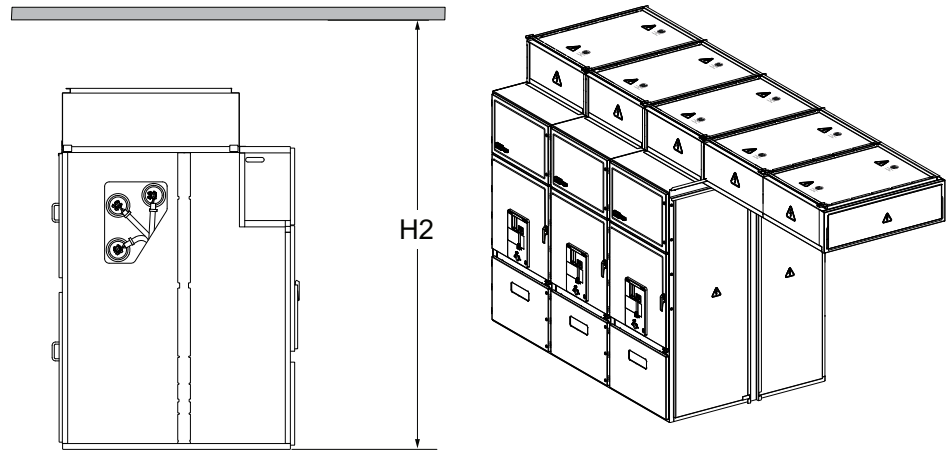
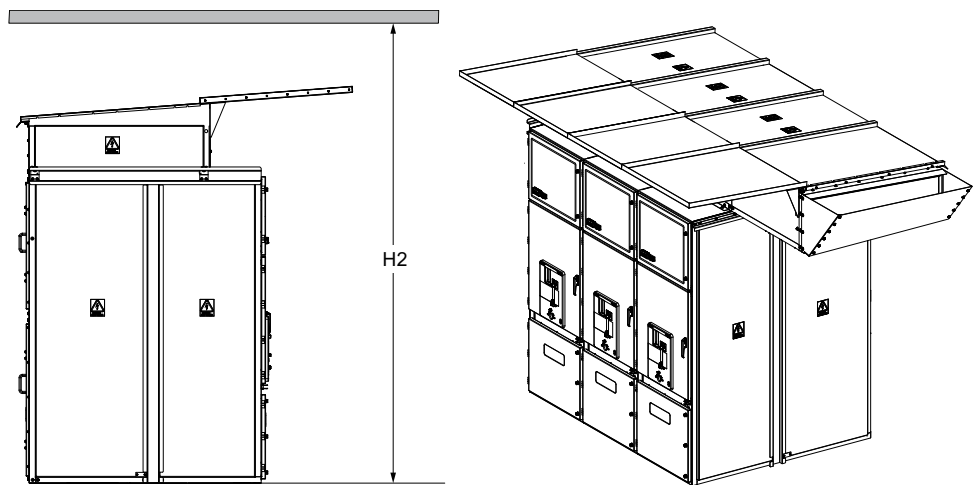

**Figure 3**
**Figure 4**
- Ensure to maintain Schneider recommended minimum ceiling height for internal and external exhaust. For details, refer to Figure 2, Figure 3, Figure 4 and Figure 5.